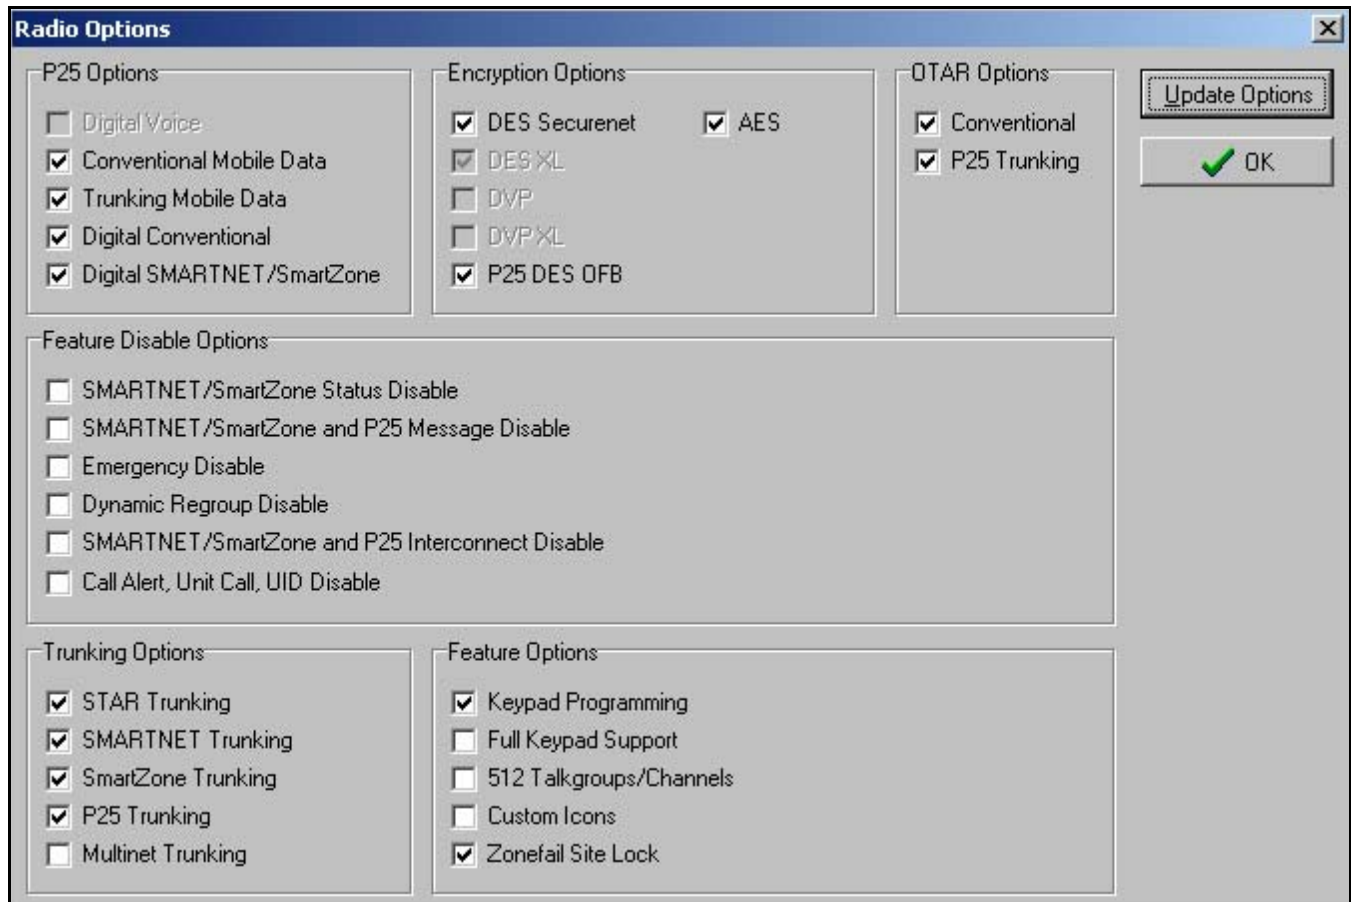

Figure 8-1 PCConfigure Radio Options Screen
The capability exists to upgrade radios in the field with new features. A new feature can be purchased and a special encrypted code string keyed to the ESN (Electronic Serial Number) of the radio is then provided by the E.F. Johnson Company. This string is in the form of a computer file, and is downloaded to the radio using the PCConfigure programming software. This is initiated by clicking the "Update Options" button on the Radio Options screen shown in Figure 8-1.
3. To display the Radio Options screen shown in Figure 8-1, select **Transfer > Read Options From Radio**.